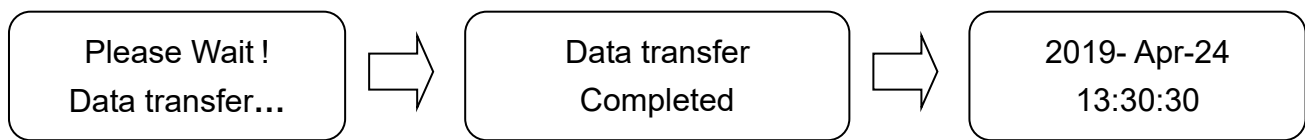

Figure 64
- b) After completing a sterilization cycle, the data will be stored to USB flash drive; and the recorder returns to stand-by mode. The sequences of storage message are shown in the Figure 64.